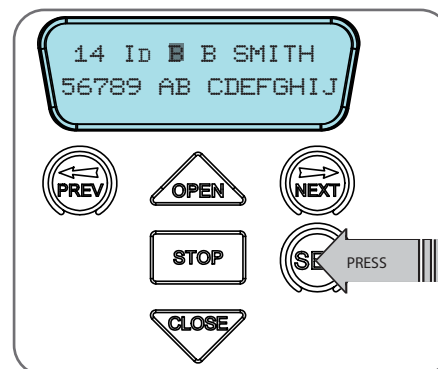

Fig F.6
- Press NEXT or PREV to move the cursor. (**Fig. F.6**)